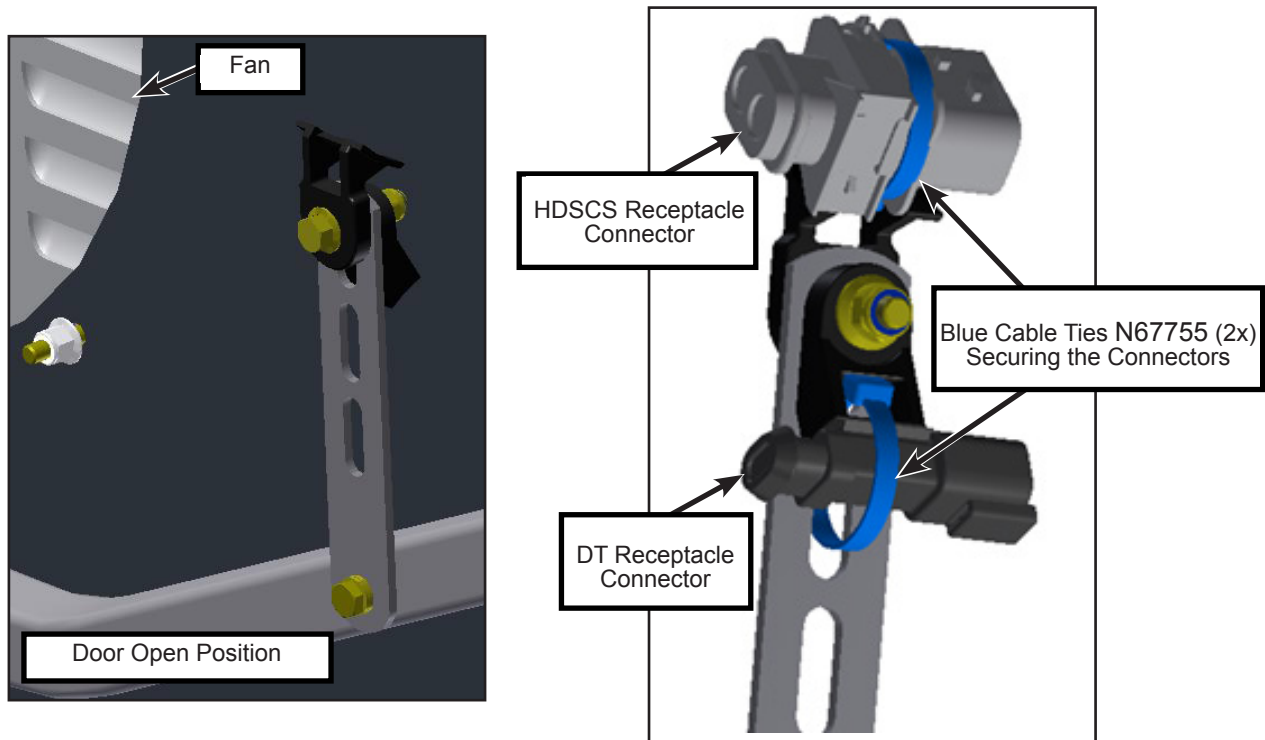

Figure 13 - Securing the HDSCS and DT Receptacle Connectors of the Harness Side
- 1.28. Secure the HDSCS receptacle connector on the harness side with the upper tie-mount (door open) using a blue cable tie PN N67755 (1x) (see figure 13 and 14) and then connect it to the HDSCS plug connector on the fan side. While mating both connectors, press the yellow slide lock of the plug connector to latch and lock both connectors together.
- 1.29. Secure the DT receptacle connector with the lower tie-mount (door open) using a blue cable tie PN N67755 (1x) (see figure 13 and 14).